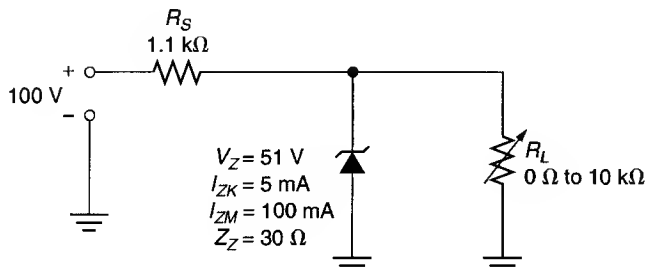

FIGURE 3.62
44. For the circuit shown in Figure 3.62, determine the total circuit current.
45. For the circuit shown in Figure 3.62, determine the value of I_Z for $R_L = 5\text{ k}\Omega$.
46. For the circuit shown in Figure 3.62, determine the minimum allowable value of R_L .